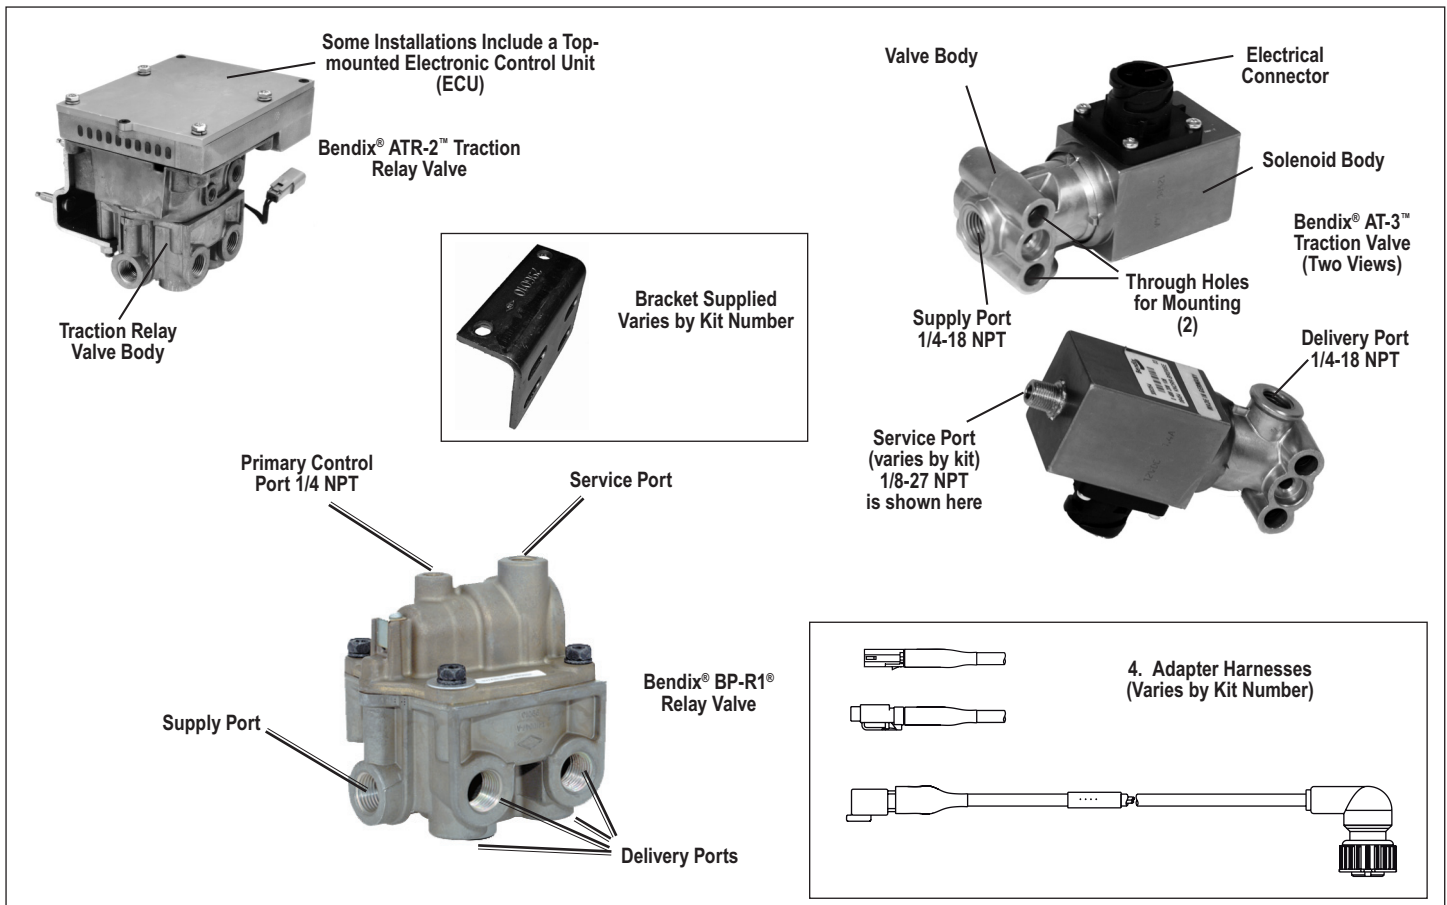

FIGURE 1 - BENDIX® ATR-2™ TRACTION RELAY VALVE REPLACEMENT KIT
5. Remove the mounting hardware bolts and then remove the Electronic Control Unit (ECU) from the valve, if so equipped. (See Figure 1).